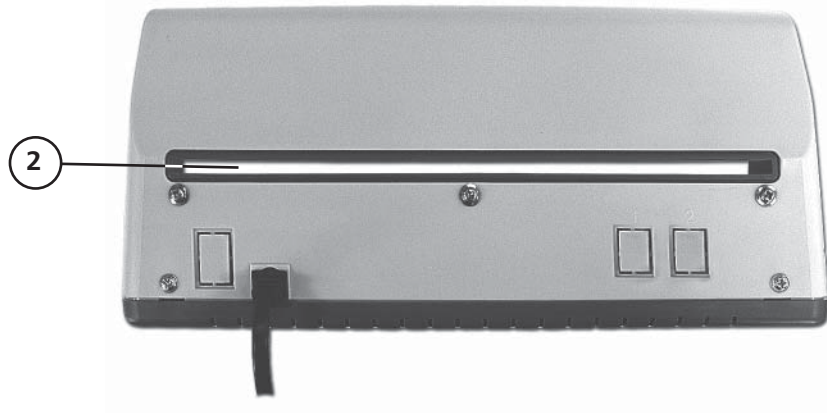
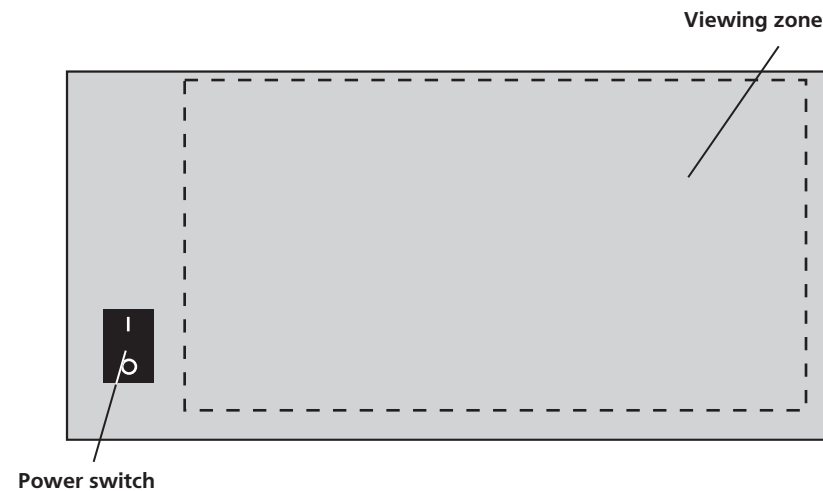

Fig. 1
Fig. 2
1. Connect the detector to the wall outlet (220V, 50 Hz). Switch the detector on with the Power switch on the front panel (fig. 1, pos. 1) – the viewing zone (fig. 2) lightens blue.
2. Place one or several banknotes at the front detector panel within the viewing zone (fig. 2).